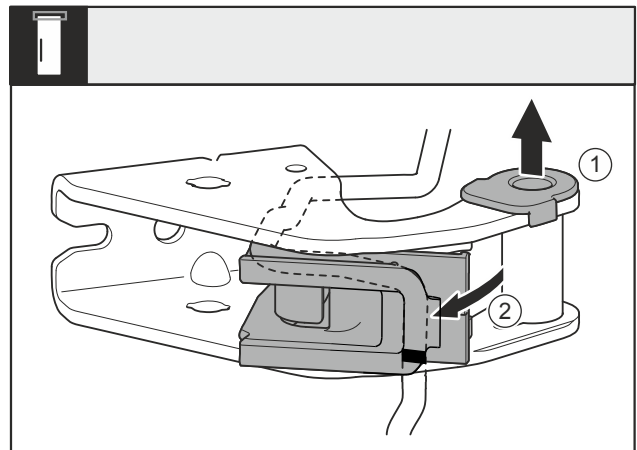

Fig. 25
- Pull out the bearing bushing Fig. 25 (1) from the guide.
- Swing out the cable bracket Fig. 25 (2).